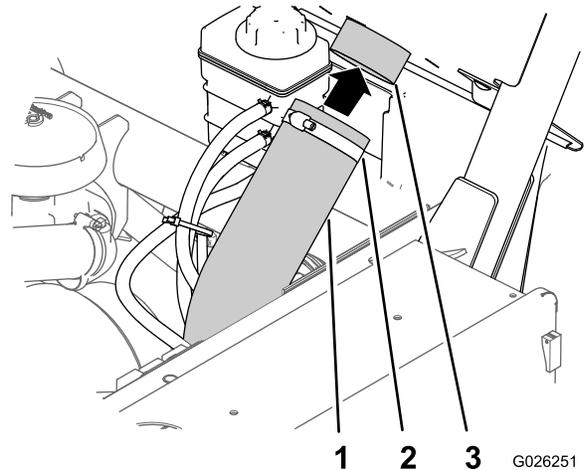

Figure 7
- Align the CVT intake hose onto the intake-tube connector at the back side of the ROPS panel and tighten the hose clamp (Figure 7).